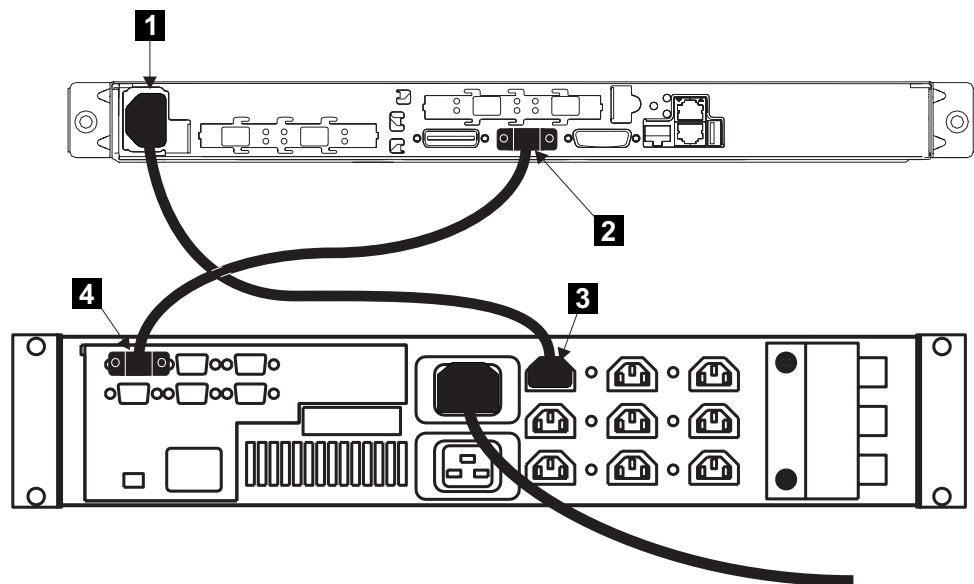

Figure 98. Connecting the SAN Volume Controller 2145-4F2 power cable to the 2145 UPS
1. At the back of the SAN Volume Controller 2145-4F2, plug a power cable into the power connector **1**. See Figure 98.